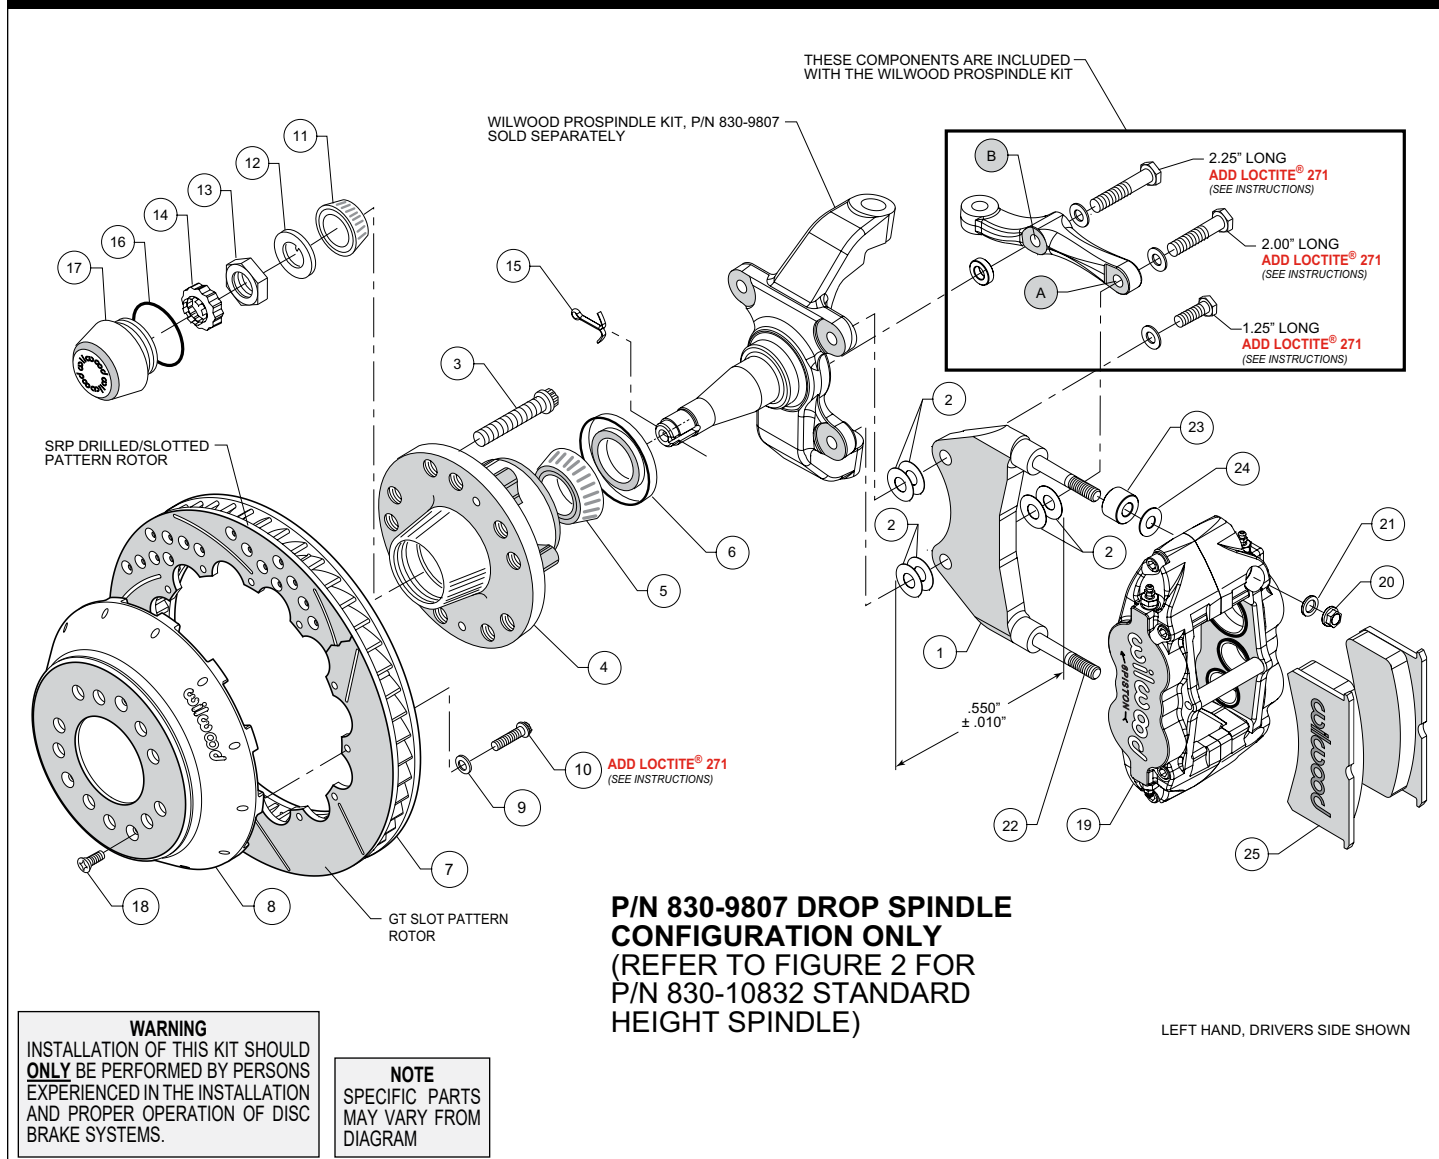
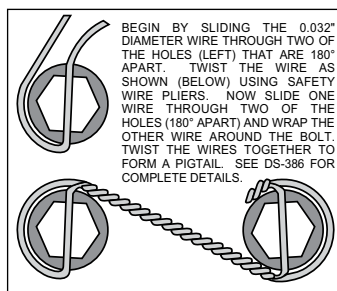

Figure 1. Installation Configuration For Drop Spindle, P/N 830-9807
Figure 4. Safety Wire Diagram
Assembly Instructions (numbers in parenthesis refer to the parts list and Figures 1 or 2 on the preceding pages):
- NOTE:** Each Wilwood ProSpindle kit includes bolts, washers, and a spacer to mount the steering arm and caliper bracket. The various bolts are identified by length in the following instructions and in Figures 1 and 2.
- Orient the bracket as shown in Figure 1 and Photo 1. Install at top spindle hole using 1.25" long bolt and .06" thick washer (from ProSpindle kit), and two .016" thick shims (2) between the bracket and spindle, Figure 1.
- Orient the steering arm, and identify the hole marked 'A', as shown in Figure 1. Install at bottom spindle hole using 2.00" long bolt and .06" thick washer (from ProSpindle kit), two .016" thick shims (2) between the bracket and steering arm, and another two .016" thick shims (2) between the bracket and spindle, Figure 1. The bracket is located between the steering arm and spindle. **NOTE:** The bracket and shim washers must add up to a total thickness of .550" $\pm$.010", Figure 1.
- Finish attaching the steering arm through the hole marked 'B', as shown in Figure 1. Install using 2.25" long bolt, .06" thick washer, and .25" thick spacer (all from ProSpindle kit), Figure 1.
- Screw dust cap (17) into hub (4). Friction created by the o-ring (16) on the dust cap keeps it from unscrewing.
- Orient the rotor (7) and the hat (8) as shown in Figures 1 or 2, and Photo 6. Attach rotor to hat using bolts (10) and washers (9). Apply red *Loctite*® 271 to the bolt threads and torque to 155 **in-lb** using a criss-cross pattern. For an added measure of security, the bolts may be safety wired using standard 0.032 inch diameter stainless steel safety wire as shown in Figure 4. Refer to Wilwood's data sheet DS-386 (available at www.wilwood.com/Pdf/DataSheets/ds386.pdf) for complete safety wire installation instructions.
- Slide the hat/rotor assembly (8 and 7) onto the hub (4) taking care to align the small countersunk holes in the hat with the small threaded holes in the hub. **NOTE:** The hat must fit flush against the hub face or excessive rotor run out may result. Install three flat head screws (18) through the small holes in the hat (8), and torque to 85 **in-lb**.
•NOTE: This kit contains distinct right and left hand calipers that must be mounted in a specific direction, as described below. Initially place one .035" thick shim (24), and spacer (23) on each stud (22) as shown in Figure 1 or 2, and Photo 7. Mount the caliper (19) onto the bracket (1) using lock nuts (20) and washers (21), Figure 1 or 2. Ensure that the caliper is mounted so that the largest pistons are at the rotor exit end of the caliper, in relation to the direction of rotor rotation. Temporarily tighten the lock nuts and view the rotor through the top opening of the caliper. The rotor should be centered in the caliper, Photo 8. If not, proceed as follows:
- For the lower bracket mount bolt, if a shim was added between the bracket and spindle, then a shim must be removed between the steering arm and bracket, such that the total thickness of bracket and shims remain equal to $.550 \pm .010$ ", Figure 1.